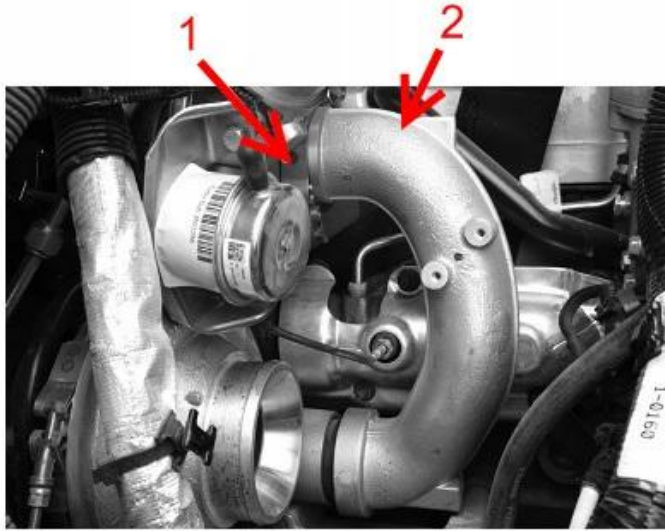

Figure 21: Turbo Crossover Tube
19. Inspect crossover tube (**Figure 21**, Item 2) seal for damage. If damaged, discard seal.
21. Install crossover tube (**Figure 21**, Item 2) on to HP turbocharger with V-band clamp (**Figure 21**, Item 1).